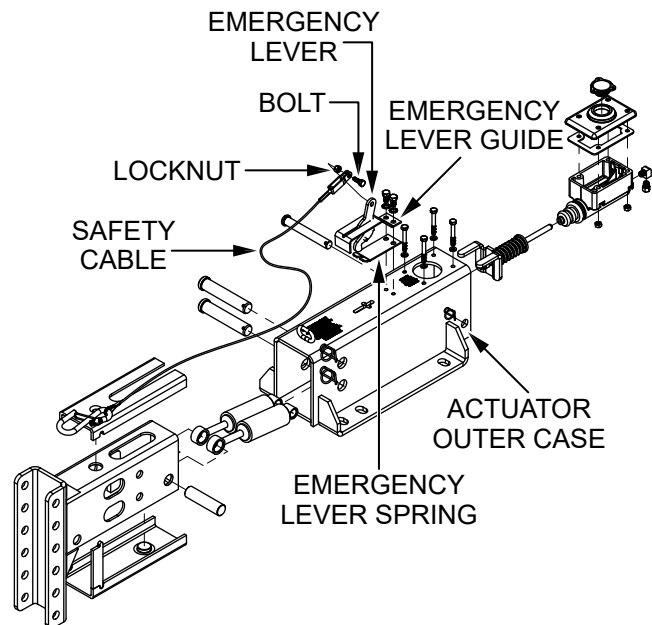

Figure 37. Hydraulic Brake Actuator (Exploded View)
If the hydraulic brake actuator's **emergency lever** (Figure 37) is applied, it can be disengaged by using a screwdriver to lift upward on the front of the flat **emergency lever spring** while pulling the lever forward until released. A thorough inspection of the emergency lever, emergency lever spring, and **safety cable** is required. Damaged parts must be replaced as follows:
1. Remove the safety cable from the emergency lever, emergency lever guide, and flat emergency lever spring, then pull the lever out of the **actuator outer case** (Figure 37) through the cross-slot in the top of the outer case.
3. Bolt the safety cable to the emergency lever using the **bolt** and **locknut** (Figure 37). Leave loose to allow the fork to pivot on the lever.